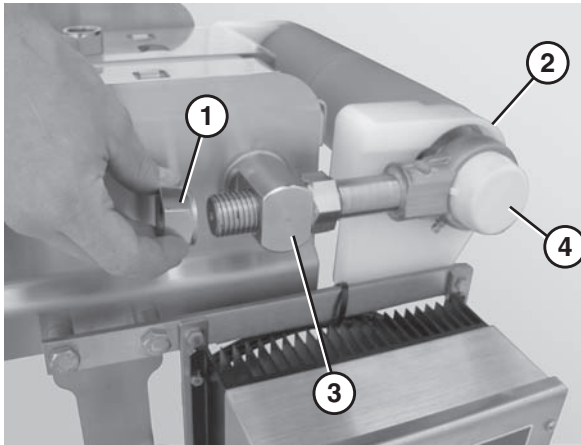

Figure 70
1. Remove the back nuts (**Figure 70, item 1**) on both idler tail shafts.
2. Slide the idler tail assembly (**Figure 70, item 2**) out of the take up blocks (**Figure 70, item 3**).
3. Remove the bearing covers (**Figure 70, item 4**).